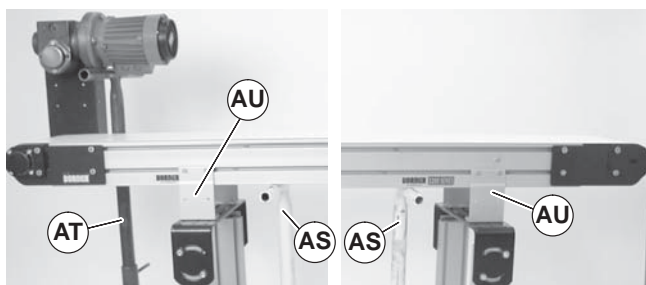

Figure 21
1. Place temporary support stands (Figure 21, item AS) at both ends of the conveyor. Place an additional support stand under the drive motor (AT), if equipped. See WARNING.
2. Remove mounting brackets (Figure 21, item AU) from one side of conveyor. (Reverse steps 3 & 4 of "Mounting Brackets" section on page 8).
1. Ensure temporary support stands (Figure 21, item AS) are placed at both ends of the conveyor. Place an additional support stand under the drive motor (AT), if equipped. See WARNING.